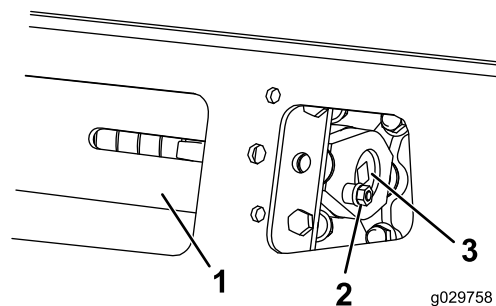

Figure 59
3. Remove the locking bolt, spacer, and nut (Figure 59).
5. Align the closest notch in the tension screw to the locking-bolt hole and secure the screw with the locking bolt and nut (Figure 59).
4. Remove the locking bolt and nut (Figure 59).
5. Using a 1/2-inch drive ratchet, release the drive tension by turning the tensioning screw clockwise (Figure 59 and Figure 65).